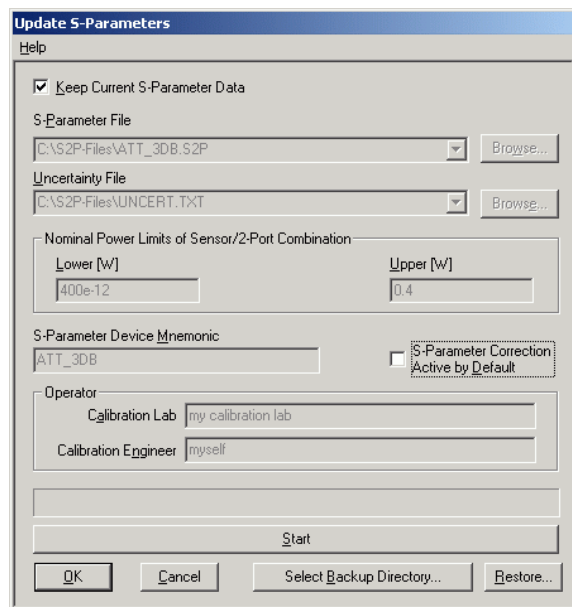

Fig. 3-5 Subsequently changing the default behaviour of the s-parameter correction
2. Make sure **Keep Current S-Parameter Data** is activated (Fig. 3-5).